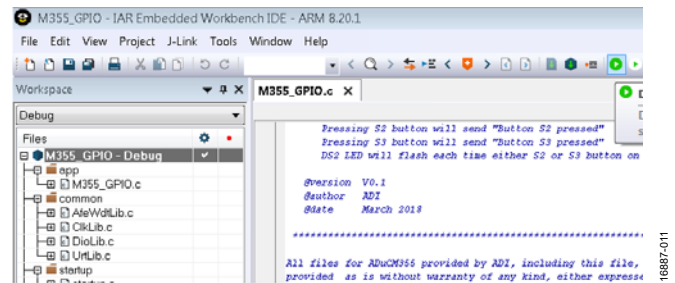

Figure 13. Launching the Debugger
3. To run the firmware on the **ADuCM355**, ensure the evaluation board is powered on and the J-Link debugger is connected. Press **Download and Debug** to load the firmware to the **ADuCM355** and launch the debugger (see Figure 13). Launching and downloading usually takes a few seconds, but the delay can be longer.